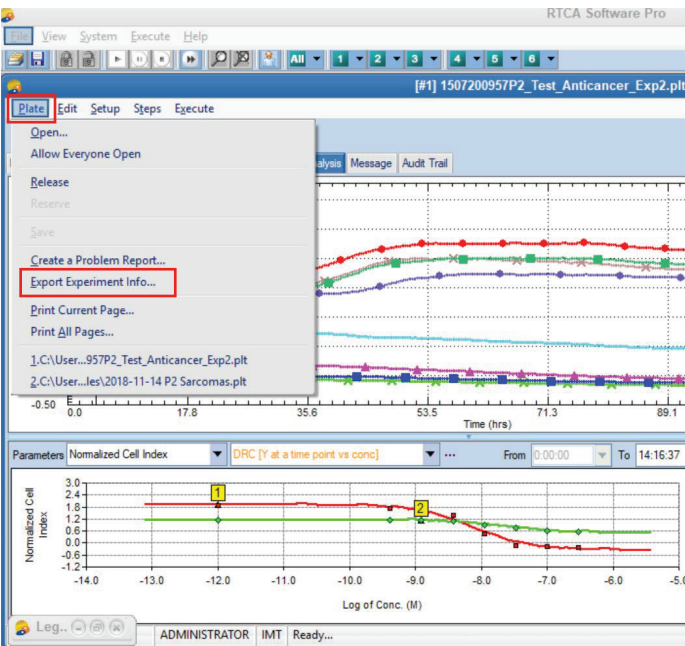

Figure 13. The Export command in the Plate menu.
- Select **Plate > Export Experiment Info** (Figure 13).